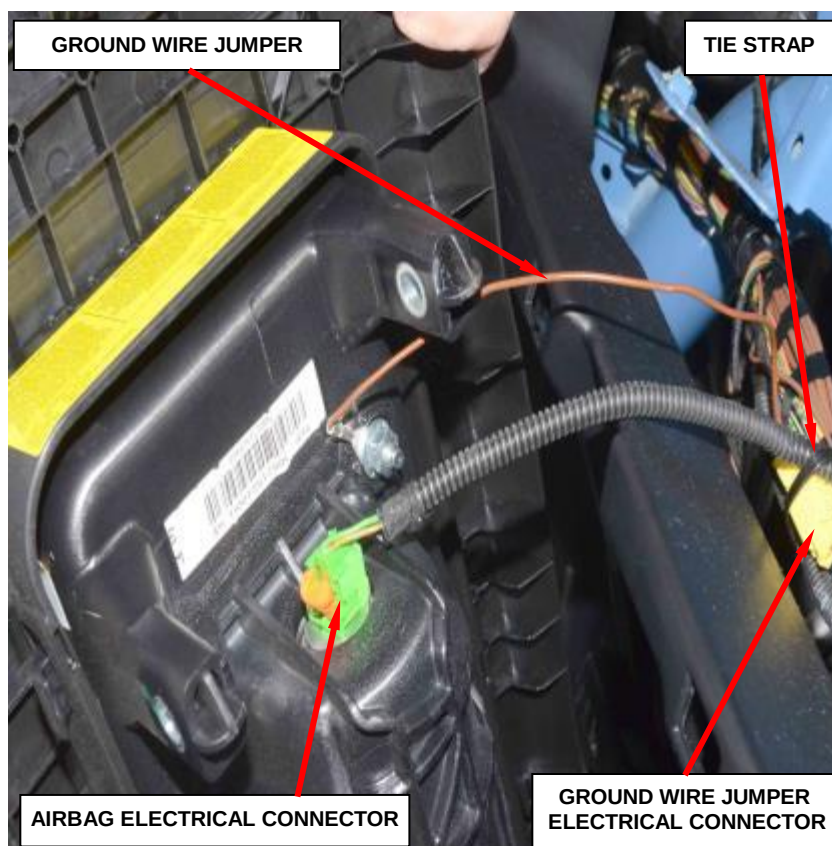

Figure 195 – Ground Wire Jumper
17. Remove and **discard** the tie strap securing the yellow ground wire jumper electrical connector to the instrument panel wire harness (Figure 195).
18. Disconnect the yellow ground wire jumper electrical connector from the instrument panel wire harness (Figure 195).